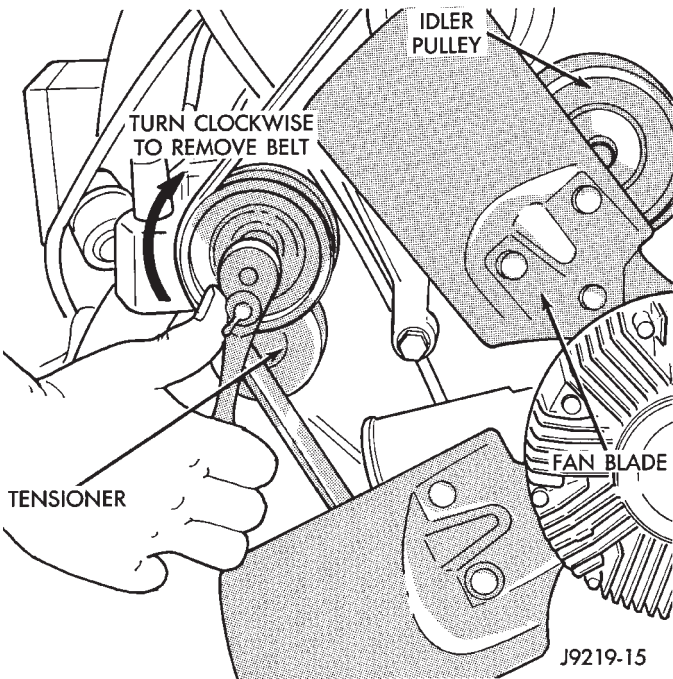

Fig. 4 Automatic Belt Tensioner—Belt Removal/Installation
Drive belts on the 5.2L engine are equipped with a spring loaded automatic belt tensioner (Fig. 4). This belt tensioner is used on all belt configurations. For more information, refer to Group 7 - Cooling, Automatic Belt Tensioner—5.2L Engines.
- (1) Disconnect negative cable from battery.
- (2) Attach a socket/wrench to the pulley mounting bolt of the automatic tensioner (Fig. 4).
(2) Position the drive belt over all pulleys **except** the idler pulley. This pulley is located between the generator and A/C compressor.
(3) Attach a socket/wrench to the pulley mounting bolt of the automatic tensioner (Fig. 4).
(4) Rotate the socket/wrench clockwise. Place the belt over the idler pulley. Let tensioner rotate back into place. Remove wrench. Be sure belt is properly seated on all pulleys.
(5) Check belt indexing marks. Refer to Group 7 - Cooling, Automatic Belt Tensioner—5.2L Engine for more belt information.